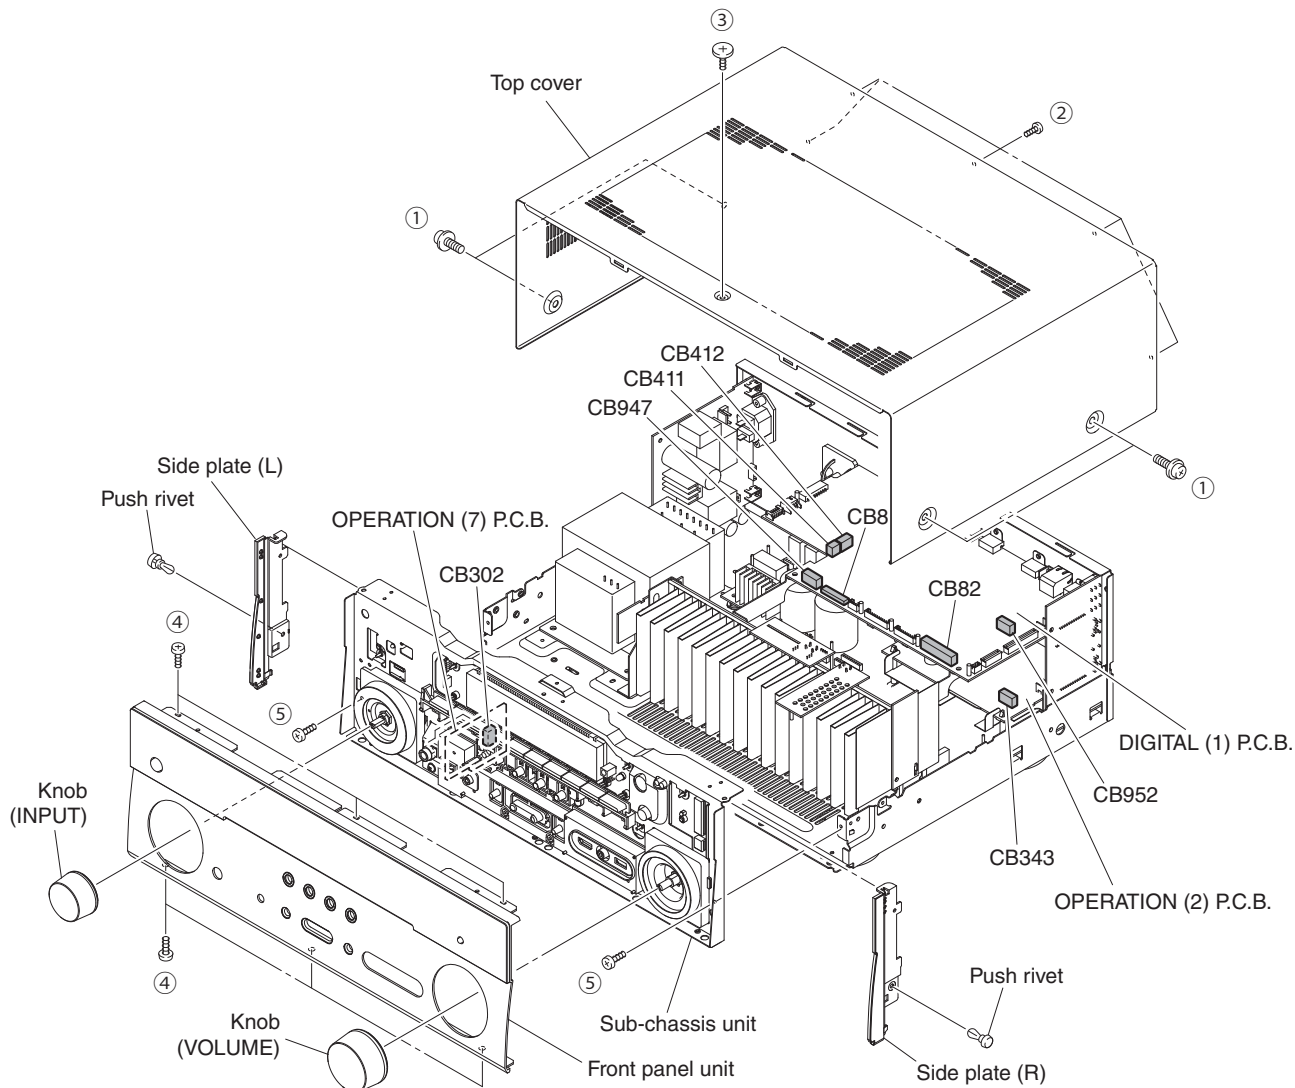

Fig. 1
- a. Remove 4 screws (①), 5 screws (②) and screw (③). (Fig. 1)
- b. Lift the rear of the top cover to remove it. (Fig. 1)
- a. Remove knob (INPUT) and knob (VOLUME). (Fig. 1)
- b. Remove 6 screws (④) and then remove the front panel unit. (Fig. 1)
- c. Remove 2 push rivets and then remove the side plate (L) and side plate (R). (Fig. 1)
- d. Remove CB8, CB82, CB302, CB343, CB411, CB412, CB947 and CB952. (Fig. 1)
- e. Remove 2 screws (⑤) and then remove the sub-chassis unit. (Fig. 1)